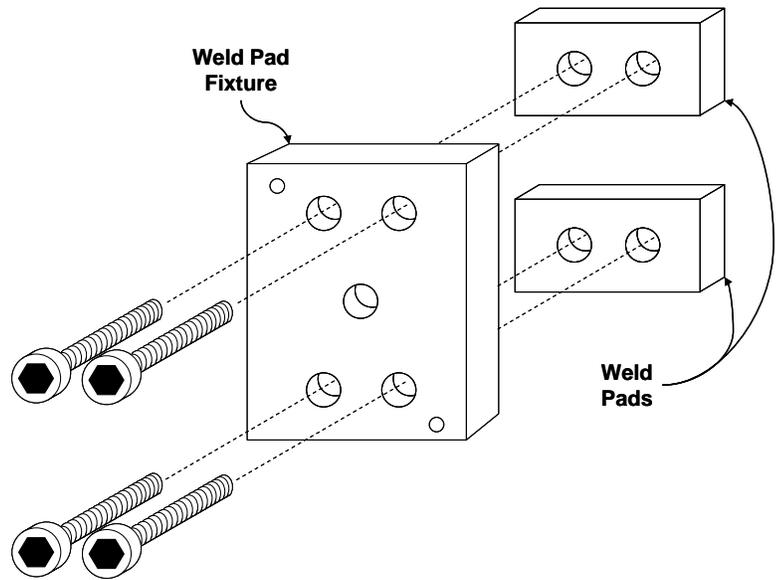

Figure 72: Weld Pad Mounting Fixture
- 4) Assemble the intermediate pads to the alignment/clamping fixture using the 1/4 x 28 bolts provided, as shown in Figure 72.